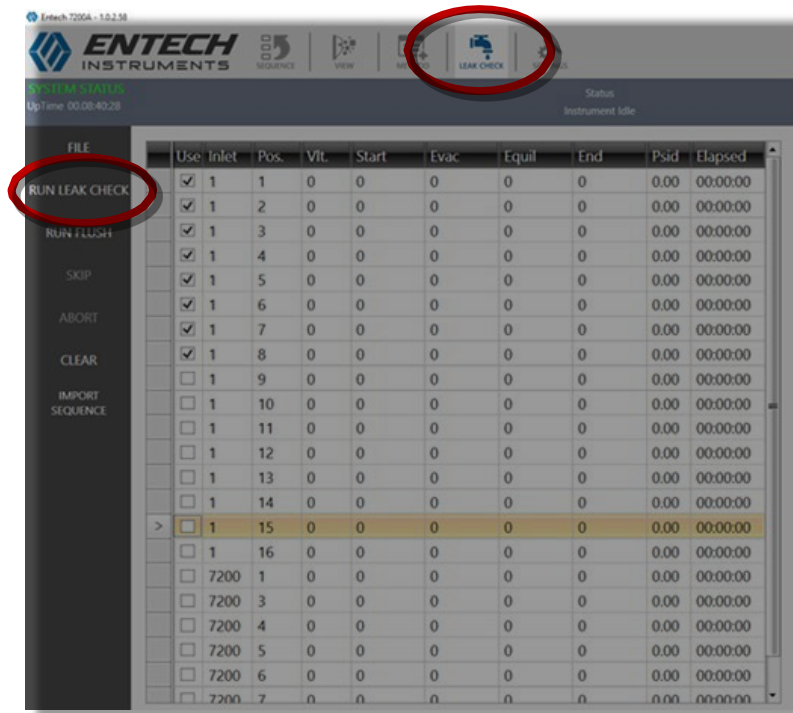

Figure 11. Initiating a leak check.
2. Click **Leak Check** on the top tool bar (Figure 11).
4. Click **Run Leak Check** on the left-hand toolbar (Figure 11). A leak check will be performed only on the canister samples listed in the sequence table that are mounted on the 7016D autosampler.